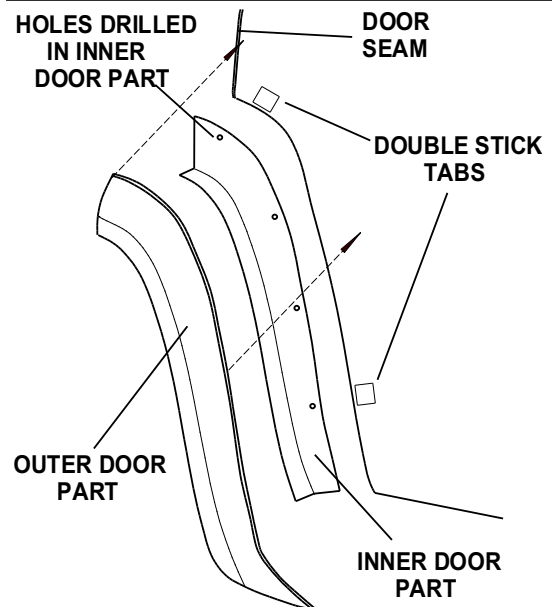

FIGURE 4
- (A) Drill four holes in each inner door part, and three holes in each outer door part with a 3/16" drill bit, using the indents in the parts as a guide. See FIGURE 4.
- (B) Apply two double stick tabs to the door at positions indicated in FIGURE 4. Stick the inner door part onto the door aligning it with the rear main part and the wheel well opening.